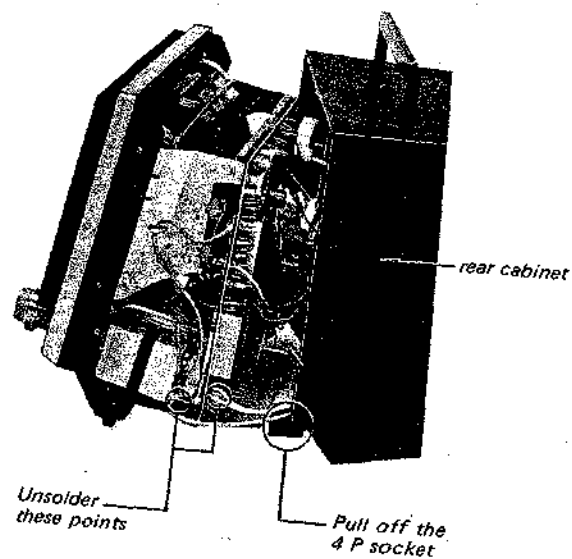

Fig. 2-4.
6. Pull off the 4P socket as shown in Fig. 2-4.